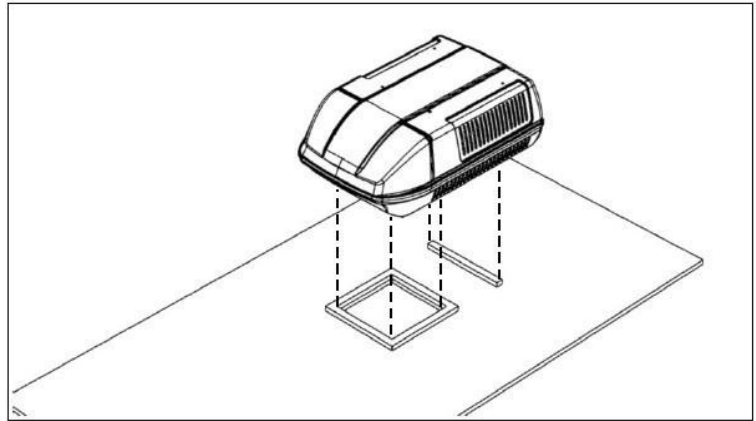

Fig 6- Position the unit over the roof gasket and set down gently.
- Position the unit over the gasket so that the corners of the square hole in the RV roof line up with the corners of the square hole underneath the air conditioner (Fig 6). **TIP:** Have one person inside the RV looking through the hole while the other is on the roof adjusting the position of the unit.
- Mating and un-mating the completed connector is illustrated in Figure 6.